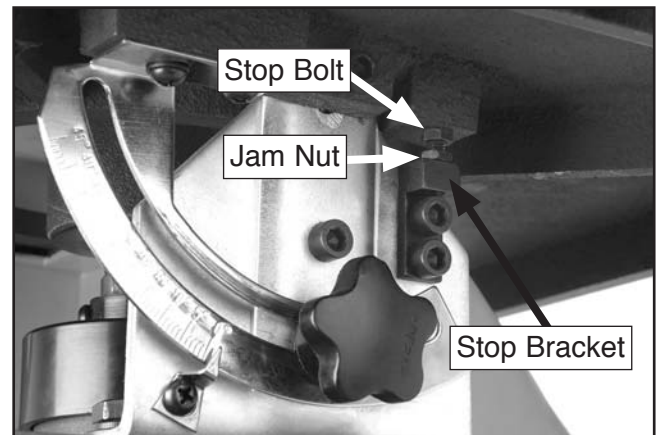

Figure 24. 0° stop.
2. Loosen the jam nut and turn the stop bolt several turns clockwise (**Figure 24**).